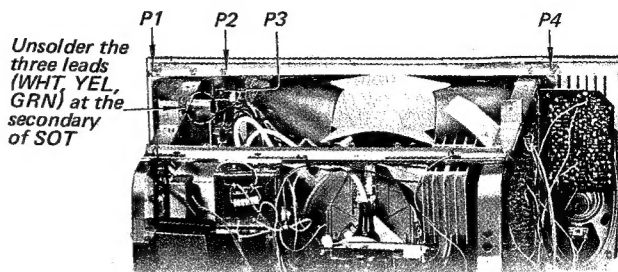
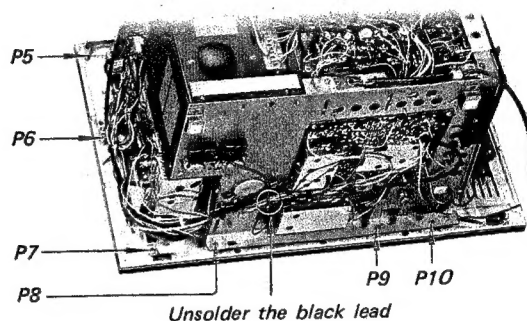

Fig. 2-20.
Fig. 2-21.
12. Unsolder the three leads (white, yellow and green) connected to the secondary terminal of the SOT. See Fig. 2-20.
13. Remove the four screws labeled P1 ~ P4 in Fig. 2-20 and six screws labeled P5 ~ P10 in Fig. 2-21.
3. Install the mask assembly to the chassis, and tighten the four screws labeled P1 ~ P4 in Fig. 2-20 and the six screws labeled P5 ~ P10 in Fig. 2-21.